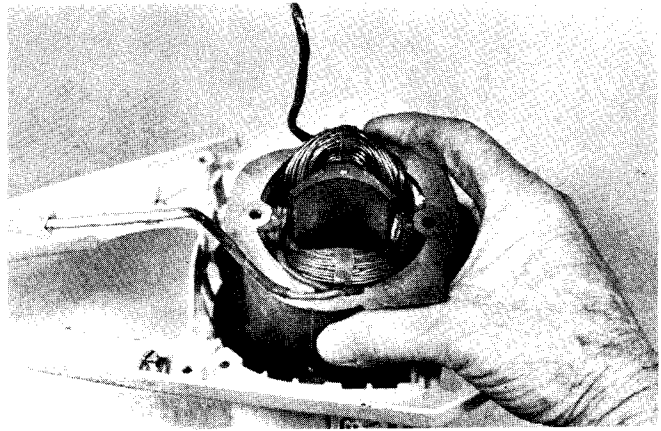

Fig. 8 — Removing/Installing Field Coils
8. Remove field coils, Fig. 8.
1. Install field coils as shown in Fig. 8 and connect wires to brush holder.